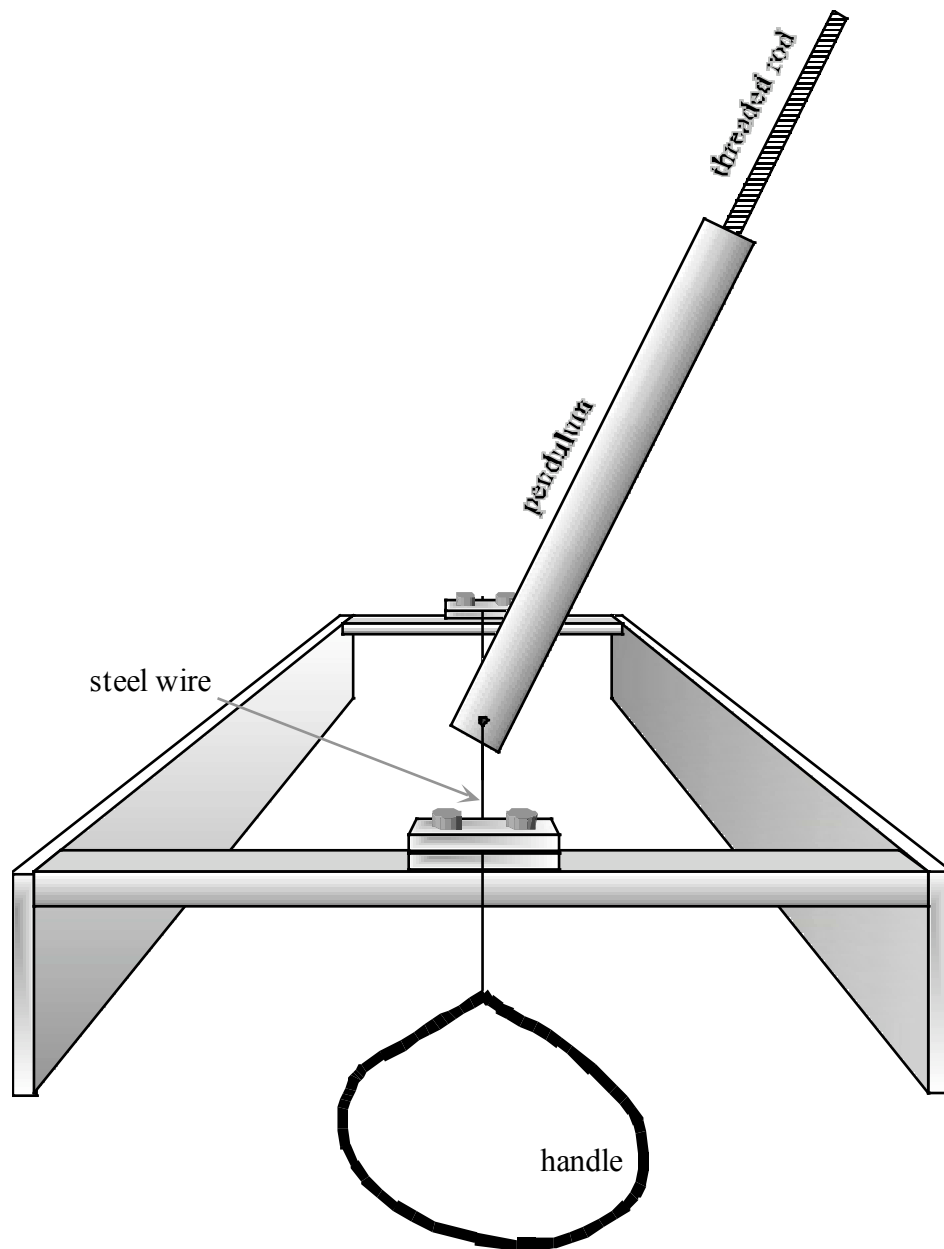

Figure 1: Sketch of the experimental apparatus when its rotation axis is horizontal.
1. A torsion pendulum, consisting of an outer body (not longitudinally uniform) and an inner threaded rod, with a stand as shown in figure 1
The experimental apparatus is shown in figure 1; it is a torsion pendulum that can oscillate either around a horizontal rotation axis or around a vertical rotation axis. The rotation axis is defined by a short steel wire kept in tension. The pendulum has an inner part that is a threaded rod that may be screwed in and out, and can be fixed in place by means of a small hexagonal lock nut. This threaded rod can **not** be extracted from the pendulum body.
- the pendulum position defined by the angle  $\theta$  of deviation from the direction perpendicular to the plane of the stand frame, which is shown horizontal in figure 1.